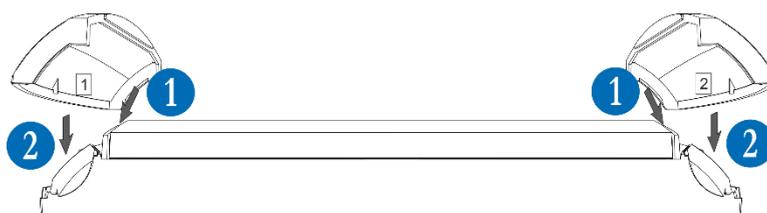

Figure 6
- Mount the Left and Right side covers to the box bottom as observe their correct place – look for the marks at the back side – Figure 6. Press the side cover downwards until a click is heard.